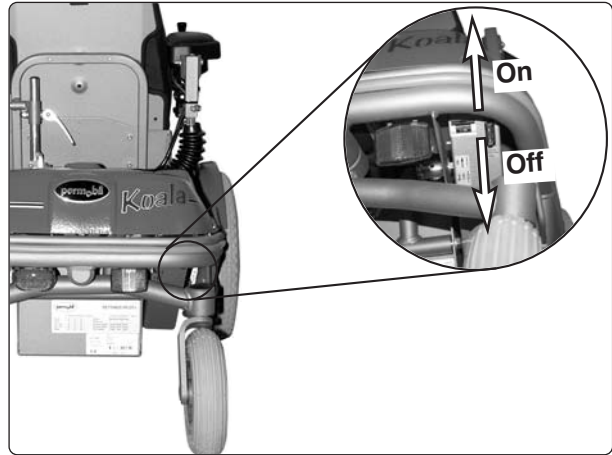

Fig. 11. Circuit breaker/Battery isolator.
4. Put the circuit breaker to the "OFF" position, see fig. 11.